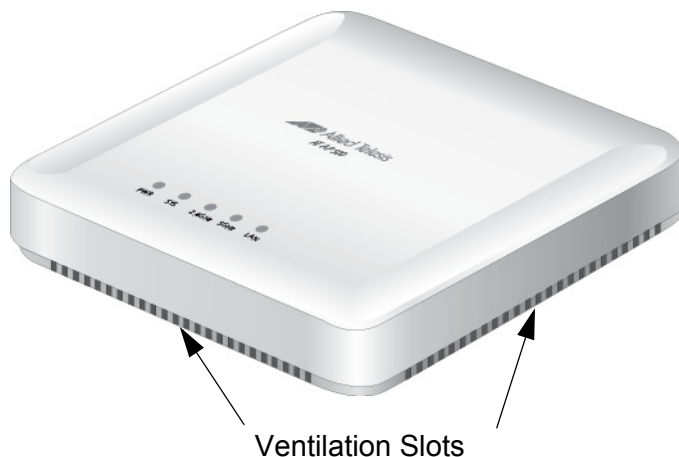

Figure 3. Ventilation Slots
- ❑ The selected location must not block the ventilation slots around the base of the unit. Refer to Figure 3.